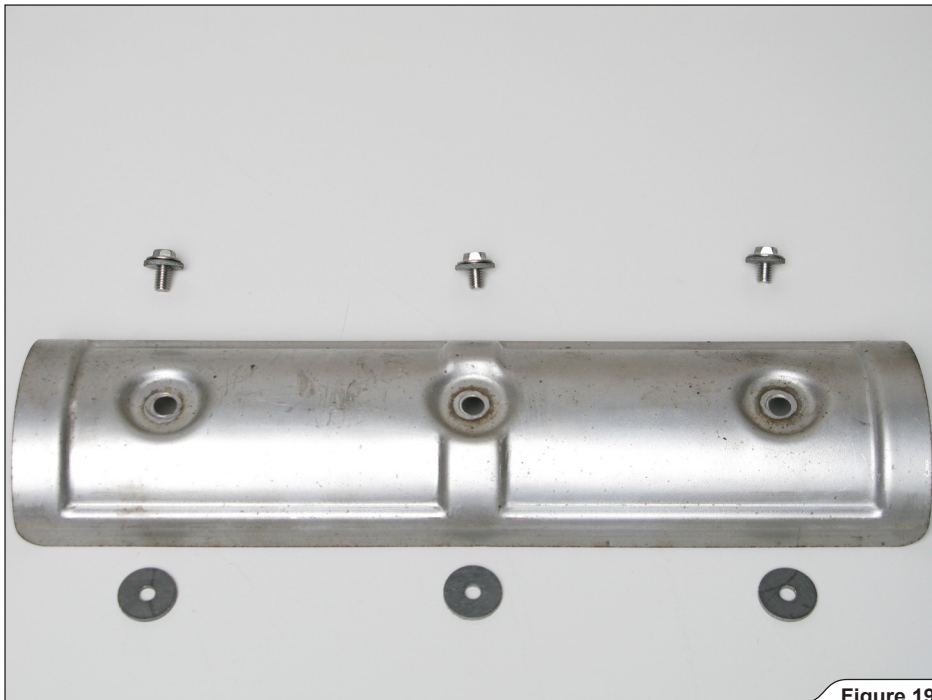

Figure 19
8. **For Evolution only:** assemble the stock heatshield with bolts and heat resistant washers from Akrapović installation kit, as shown (**Figure 19**).